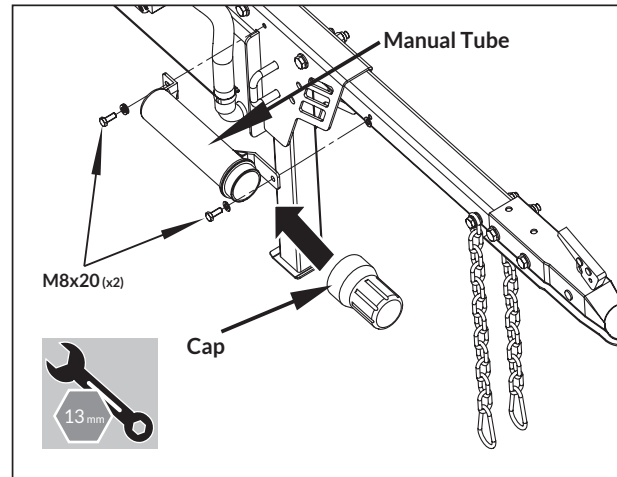

Figure 10
1. Remove the cap of the manual tube. Align the holes in the manual tube with the holes in the tow bar, insert and tighten bolts and washers. (See Figure 10)